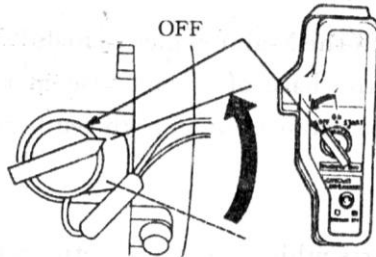

Fig. 20
1. Push the engine switch to “OFF” (Fig. 20).